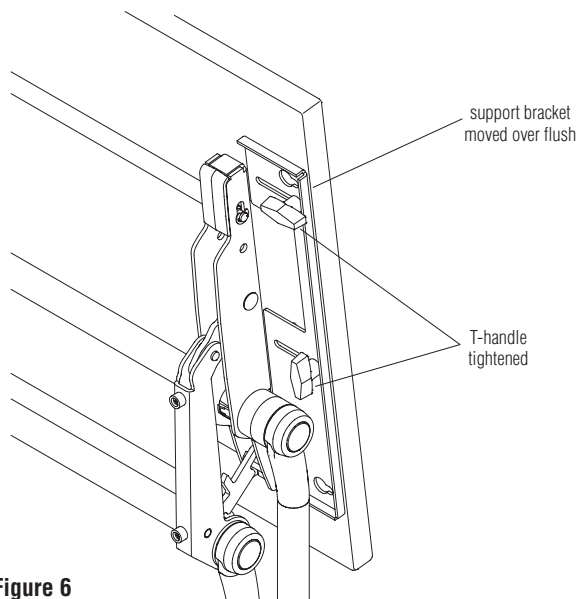

Figure 6
6. To store support brackets, loosen the T-handles and slide the bracket over until it is flush with the edge of the table. Tighten T-handles to secure in place (Figure 6).